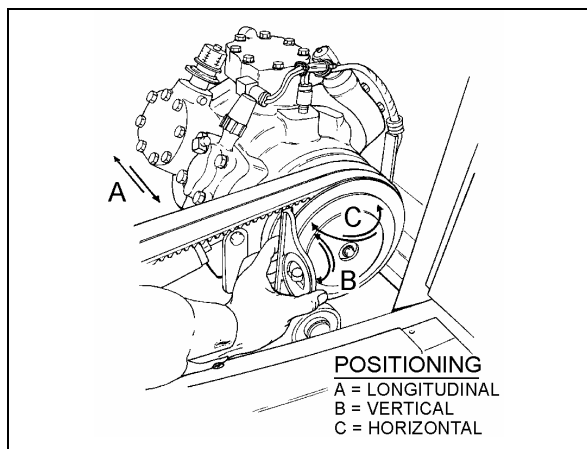

FIGURE 23: COMPRESSOR ALIGNMENT
1. Rest an extremity of a straight edge of approximately 46 inches (117 cm) against the upper part of the outer face of crankshaft pulley, positioning the other end close to the compressor clutch pulley (Figs. 23 & 24).
2. Check the distance between each extremity of straight edge (1. Fig. 23) and the first drive belt. If they are different, loosen the compressor support bolts and with a hammer, knock support to slide it in order to obtain the same distance; then tighten bolts.
Rest a short "angle and level indicator" on the outer side face of the crankshaft pulley, adjust the level indicator inclination at  $0^\circ$  and check if the compressor pulley is at same angle (Fig. 23). If it is not the same, shim under the appropriate pillow block in order to obtain the correct angle.